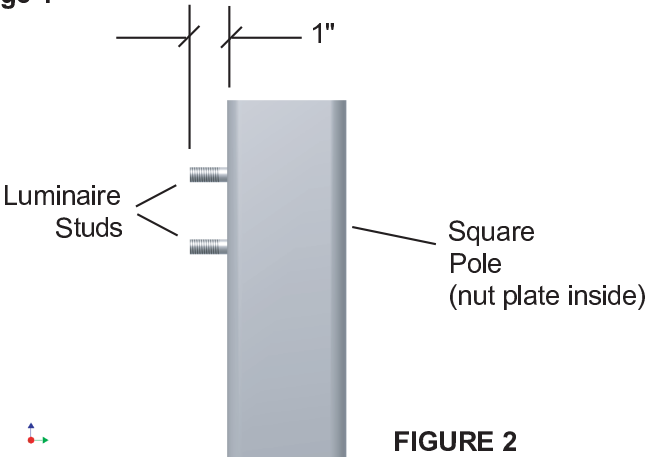

FIGURE 2
A. DIRECTLY TO SQUARE POLE - FIGURE 2
3. With nut plate inside pole, thread luminaire mounting studs thru top and bottom pole holes, then into nut plate. See Figure 2.